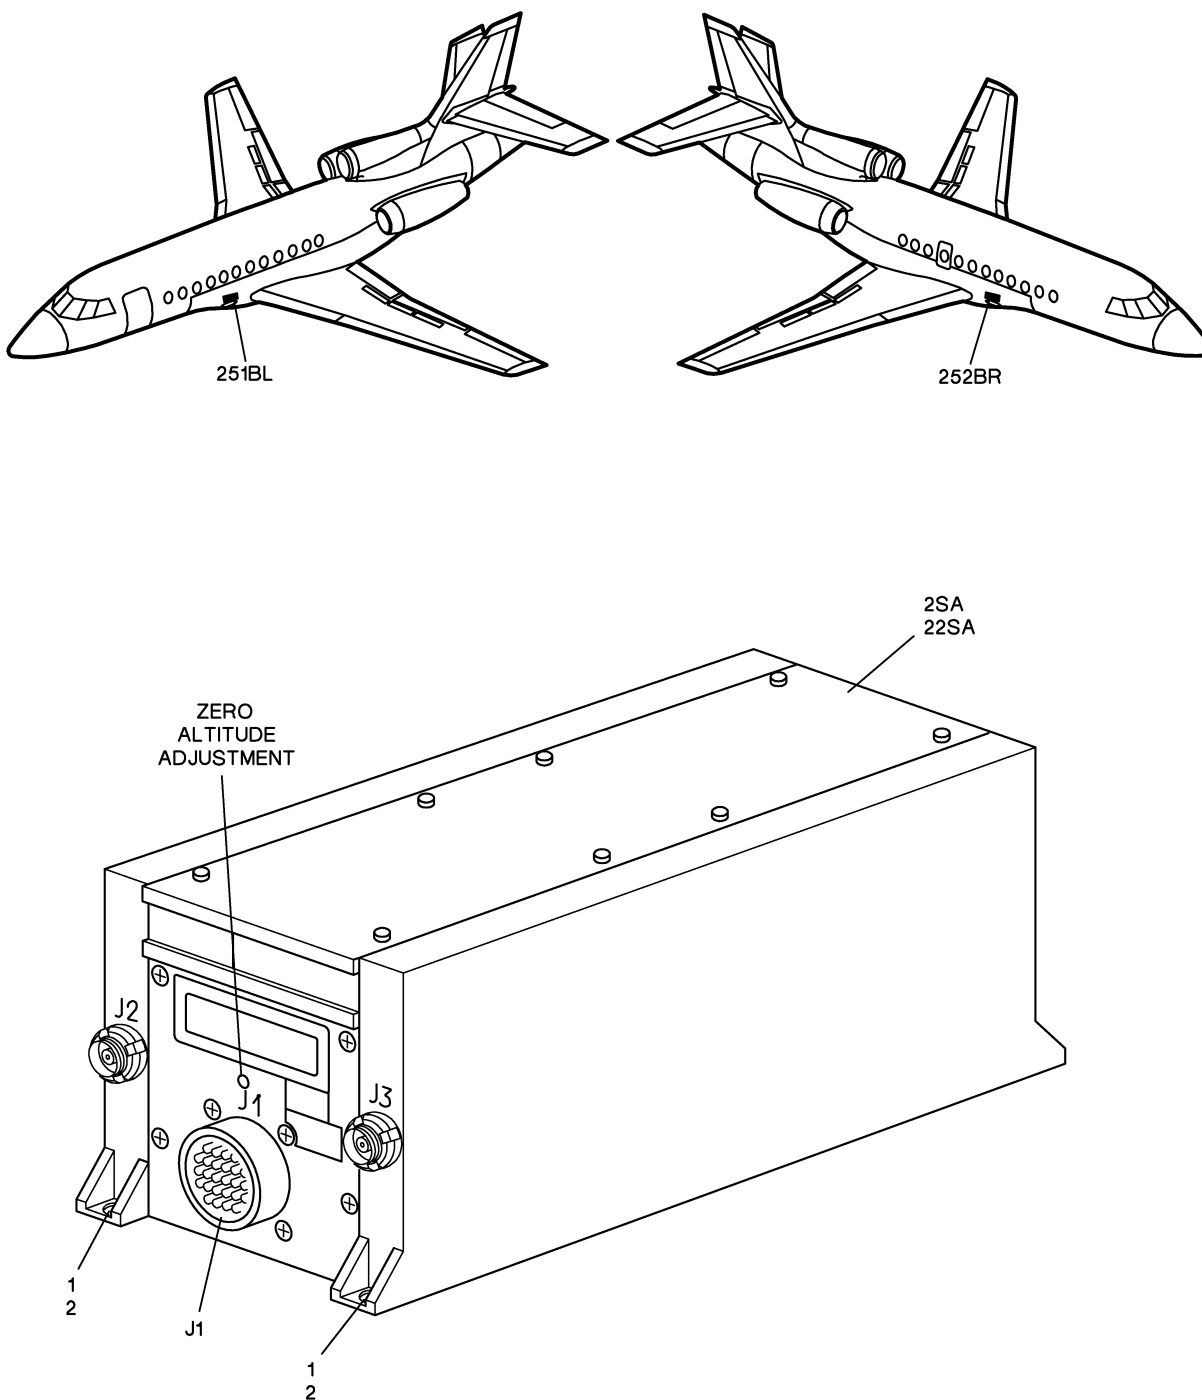

Figure 1: Removal/Installation of Radio Altimeter
- A. Remove fuselage fairing fillet (Refer to **TASK 53-60-01-900-801**) (**fig. 1**):
- (1) For radio altimeter 1 (**2SA**):
- (2) For radio altimeter 2 (**22SA**) (A/C with M 1875):
Refer to **fig. 1**
- B. Install fuselage fairing fillet (Refer to TASK 53-60-01-900-801) (**fig. 1**):
- (1) For radio altimeter 1 (2SA):
- (2) For radio altimeter 2 (22SA) (A/C with M 1875):